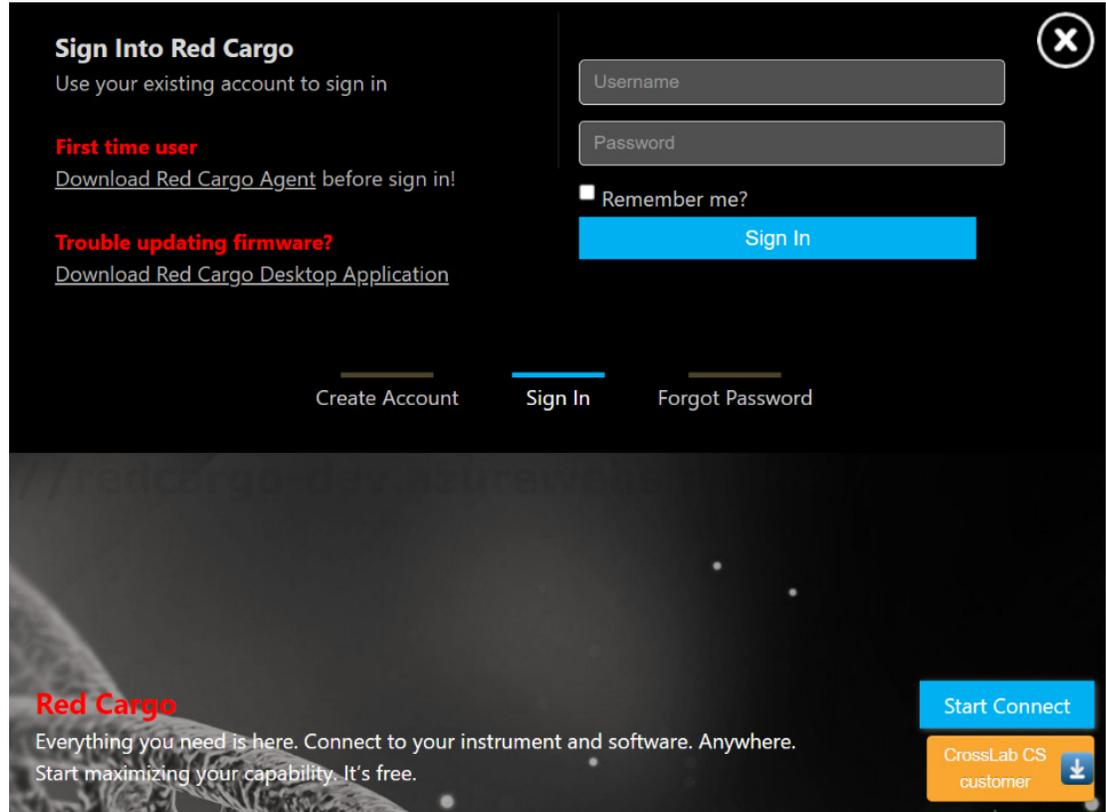

Figure 2. The Red Cargo sign in window.
- 2 Click **Start Connect** (see **Figure 2**).